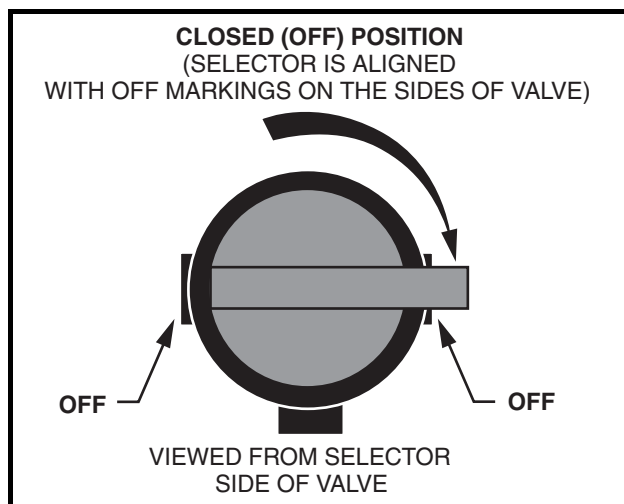

Figure 14-12 Closed Fuel Shut-off Valve Position
2. Turn fuel shut-off valve to the closed (OFF) position and run the engine until fuel remaining in the carburetor, fuel pump, and fuel lines is used up and the engine stalls (**Figure 14-12, Page 14-21**).
The fuel shut-off valve is located on top of the fuel tank. The fuel shut-off valve should always be turned to the closed (OFF) position during vehicle storage, towing or trailering (Figure 14-12, Page 14-21). Unless the engine will be run as part of a procedure, the fuel shut-off valve should also be closed (OFF) before performing maintenance or service procedures.